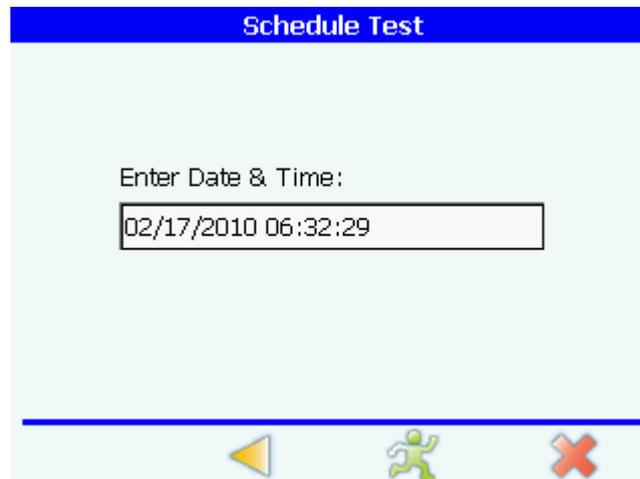

Figure 6-8 Schedule test dialog box
- **Schedule icon** takes you to the schedule test dialog box. See Figure 6-8.